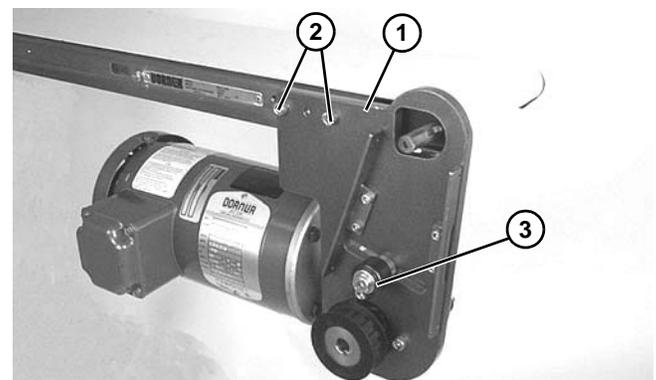
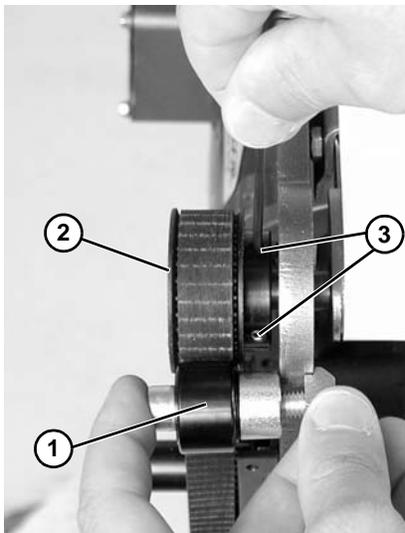

Figure 18
Figure 20
- Attach mounting assembly (Figure 18, item 1) with screws (Figure 18, item 2). Tighten to 80 in-lb (9 N-m).
9. Remove cam bearing and spacer (**Figure 18, item 3**). Place the cam bearing and spacer (**Figure 20, item 1**) next to the driven pulley (**Figure 20, item 2**). Ensure the flanges of the driven pulley are aligned with the cam bearing. Tighten driven pulley set screws (**Figure 20, item 3**). This will allow for proper belt alignment while conveyor is in use. Replace cam bearing and spacer (**Figure 20, item 1**).